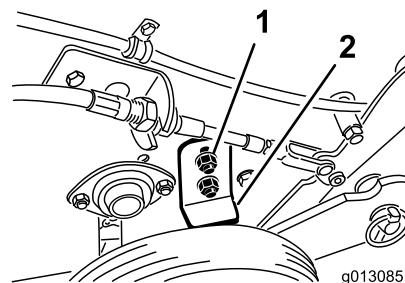

Figure 19
- Loosen the nuts securing the wheel stop on the right side of the machine (Figure 19).